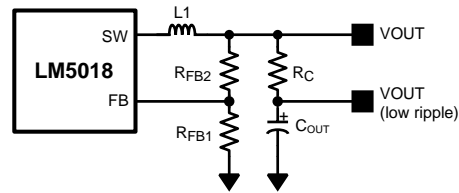

Figure 13. Low Ripple Output Configuration
This regulator regulates the output voltage based on ripple voltage at the feedback input, requiring a minimum amount of ESR for the output capacitor ( $C_{OUT}$ ). A minimum of 25mV of ripple voltage at the feedback pin (FB) is required for the LM5018. In cases where the capacitor ESR is too small, additional series resistance may be required ( $R_C$  in Figure 13 Low Ripple Output Configuration).
For applications where lower output voltage ripple is required the output can be taken directly from a low ESR output capacitor, as shown in Figure 13 Low Ripple Output Configuration. However,  $R_C$  slightly degrades the load regulation.